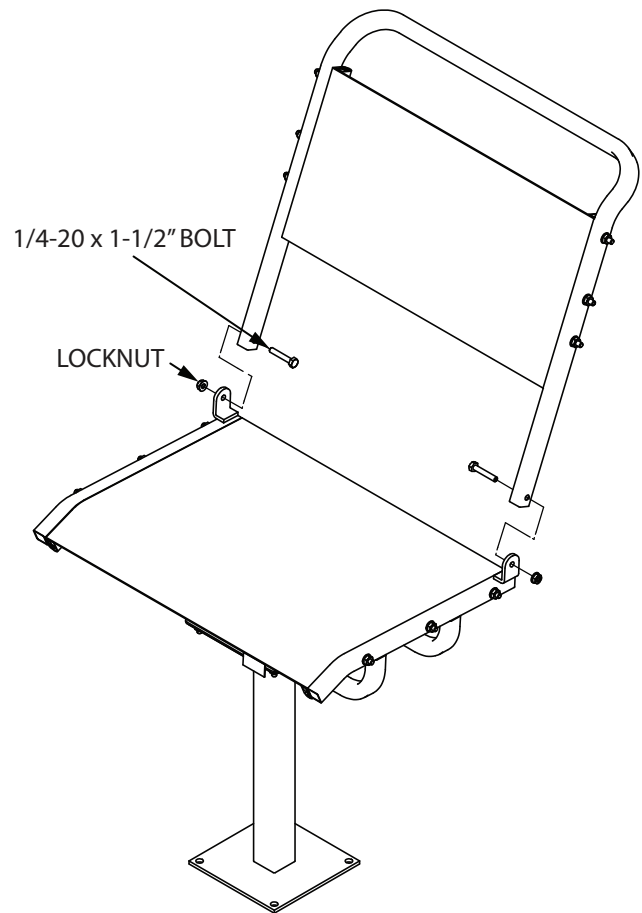

FIGURE 6
7. Attach factory assembled backrest (17630) to tabs of seat frame using (2) provided 1/4-20 x 1-1/2" bolts and locknuts. **SEE FIGURE 6**